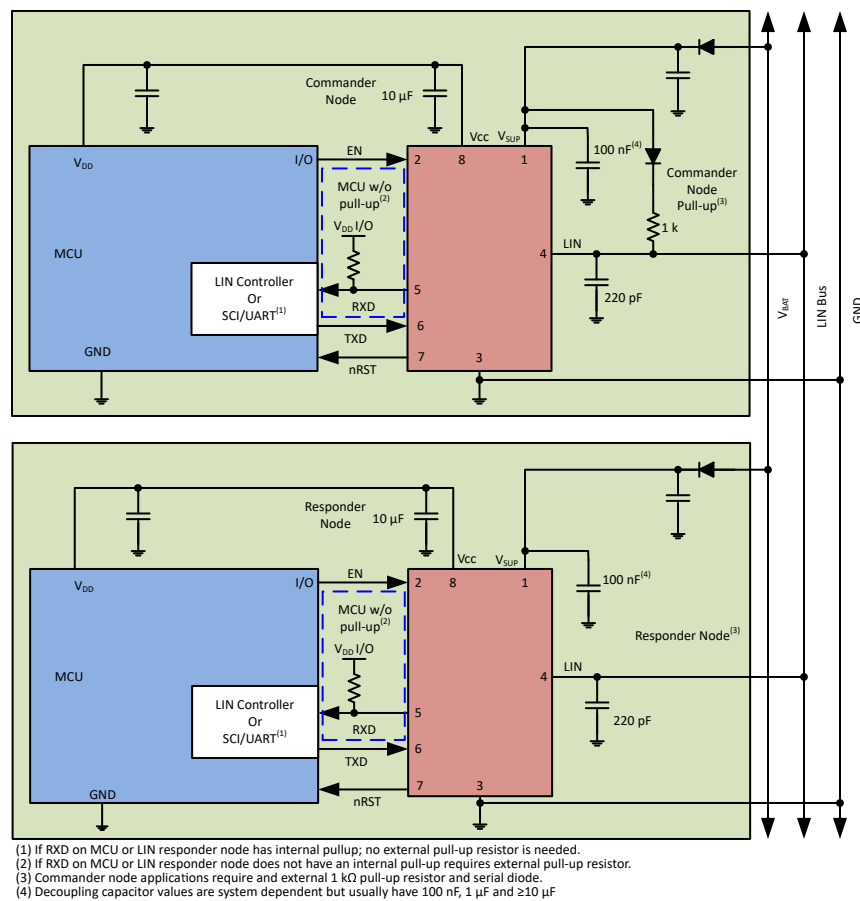

图 10-1. Typical LIN Bus
- **Pin 2 (EN):** EN is an input pin that is used to place the device in a low power sleep mode. If this feature is not used, the pin should be pulled high to the regulated voltage supply of the microprocessor through a series resistor, values between 1 kΩ and 10 kΩ. Additionally, a series resistor may be placed on the pin to limit current on the digital lines in the event of an over-voltage fault.
- **Pin 4 (LIN):** This pin connects to the LIN bus. For responder node applications, a 220 pF capacitor to ground is implemented. For commander node applications, an additional series resistor and blocking diode should be placed between the LIN pin and the V_{SUP} pin. See 图 10-1